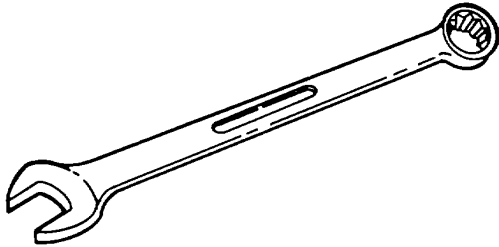

Figure 4-24. Combination Wrench
(3) *Combination wrenches.* The combination wrench shown in figure 4-24 combines the best features of the open-end and box wrench into a single wrench. The size opening on the wrench is the same on both ends, but one end has a box head and the other end has an open-end head. The length of the wrench varies with the size of the head. The box-end opening is offset from the shank by 15 degrees.